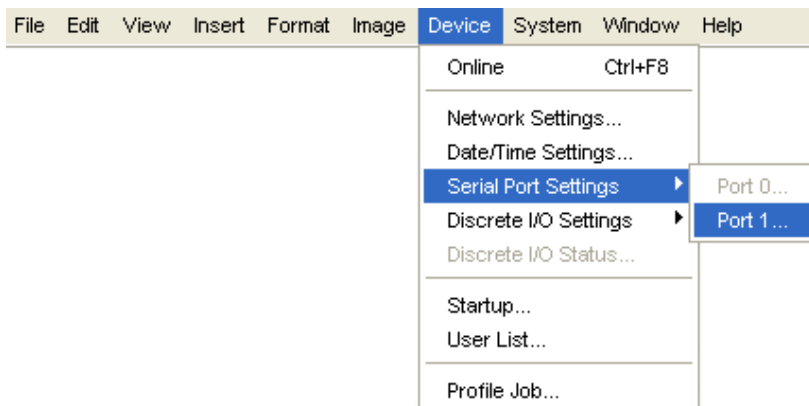

Figure 2-7: Accessing the Serial Port Settings
1. From the **Device** menu (Figure 2-7), select the **Serial Port Settings** submenu. Select **Port 1**.